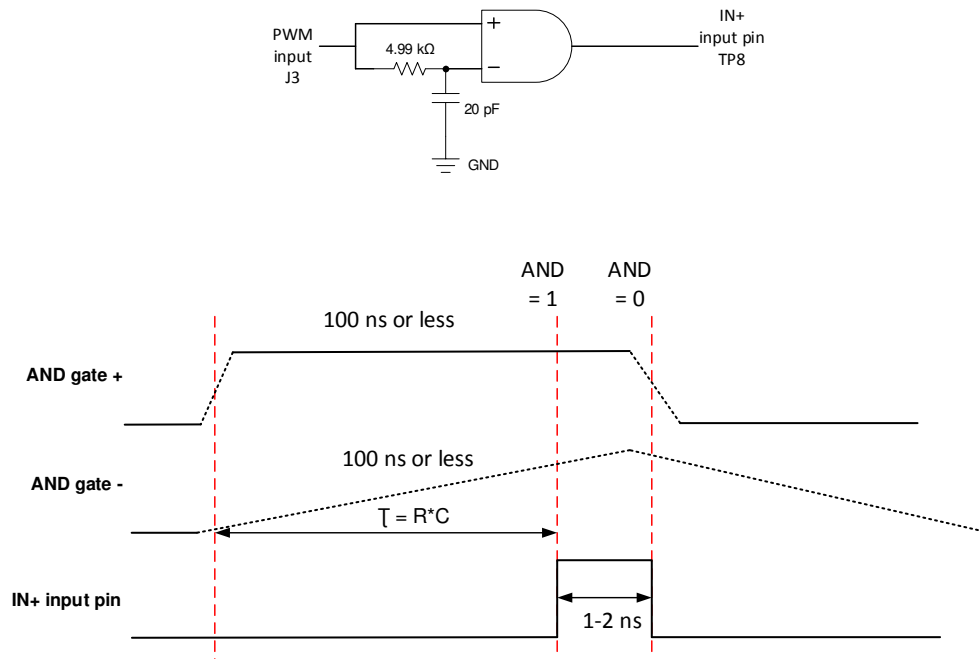

Figure 8. Pulse Shortener Yielding 1-ns to 2-ns Pulse on IN+
- Used to shorten input pulse width by using a R-C filter on one input of the AND gate (Figure 8)
The digital input buffer includes the lowpass filter plus AND gate as seen in Figure 8. The combination can be used as a pulse shortener allowing a regular function generator to achieve 1-2 ns pulses on IN+. Most function generators can only output pulses as low as 10 ns, therefore the ability to create a 1-2 ns pulse can be achieved on the EVM using the AND gate input (J3). The AND gate compares the input (J3) to a RC delayed version and when both inputs are high the output will go high. The input pulse width or falling edge from the function generator can then be fine tuned in order to see the desired pulse width on IN+. When first starting to fine tune the function generator input to see the pulse on IN+, start with 100 ns then reduce the pulse width down by the nanosecond or smaller to make 1-2 ns visible on the IN+ test point. To bypass the pulse shortener populate R3 with a 0-Ω resistor and remove R9 and R10 to disconnect the AND gate input and output respectively.